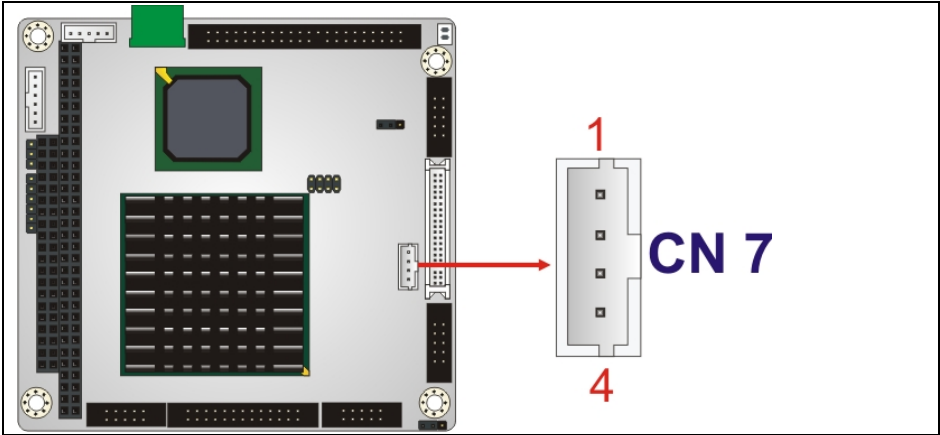

Figure 3-17: RS-422/485 Serial Port Connector Location
- CN Location:** See **Figure 3-17**